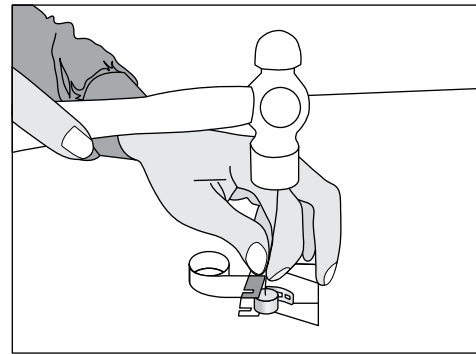

Figure 21
7. Remove the spring pin with a hammer and 4 mm straight rod. (See Figure 21)